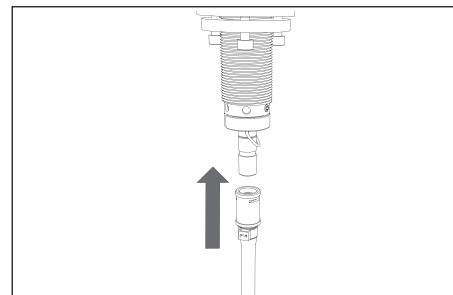

Fig. 8.2 Installing the hose on the boiling water tap
- 6. Slide the coupling on the red hose that exits the water heater over the boiling water tap connection until it can go no further (see Fig. 8.2).